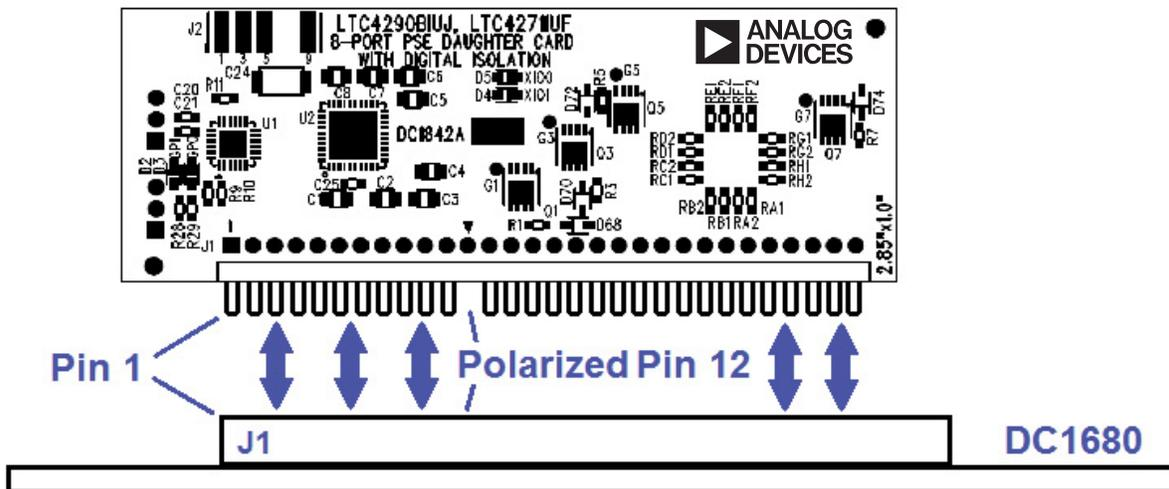

Figure 2. Inserting the DC1842 into J1 of the DC1680
3. Align pin 1 of the 30-pin male connector on the DC1842B with pin 1 of the 30-pin female connector on the DC1680B (Figure 2). Pin 12 is polarized to assist with the alignment. Carefully push the DC1842B straight down until the two 30-pin connectors are flush with each other.